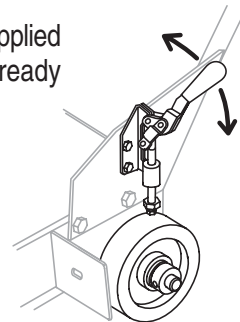

Figure 15. Wheel Clamp
1. Keep Wheel Clamp (Figure 15) applied (lever **DOWN**) until completely ready for cutting operation.